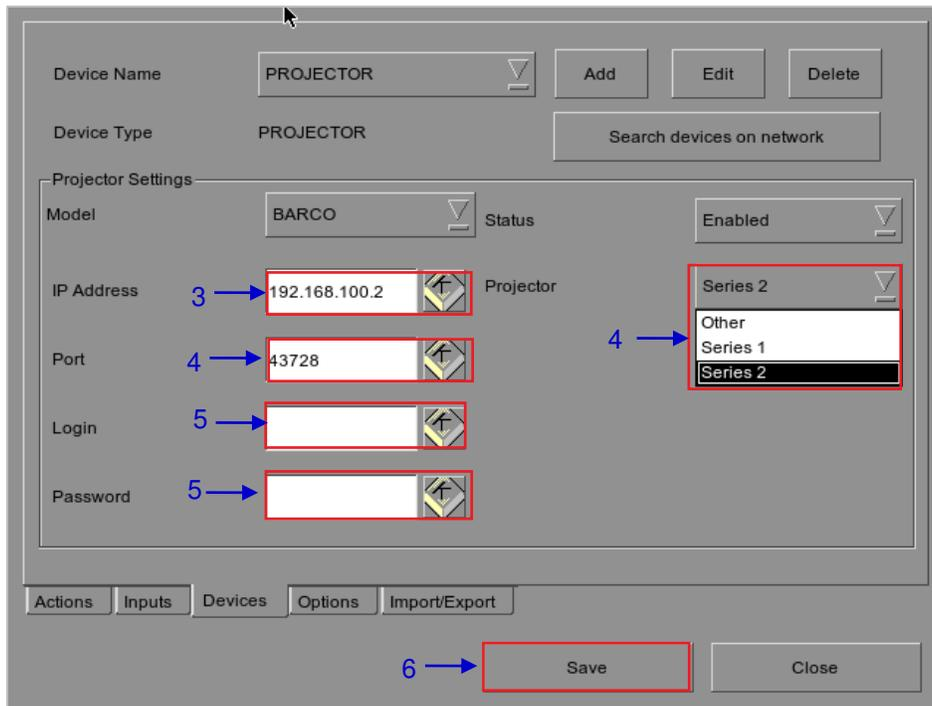

Figure 41 Automation settings for projector device.
1. Click **[Add]** button on **[Devices]** and enter the name of the device. In this case, it is **[PROJECTOR]**. Set the device type to **[PROJECTOR]** (see Figure 41).
3. Enter the IP address of the projector device (see Figure 41).